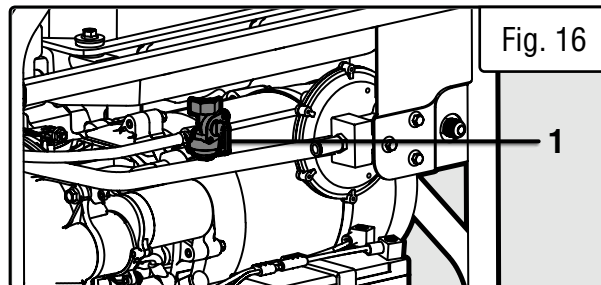

Fig. 16
3. Turn the fuel valve (Fig. 16 - 1) to the OFF position.